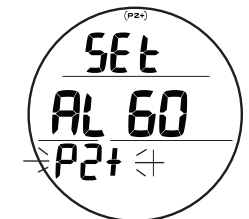

Fig. 63 - SET ALGORITHM
**Set Algorithm (NORM)**, information includes (Fig. 63):